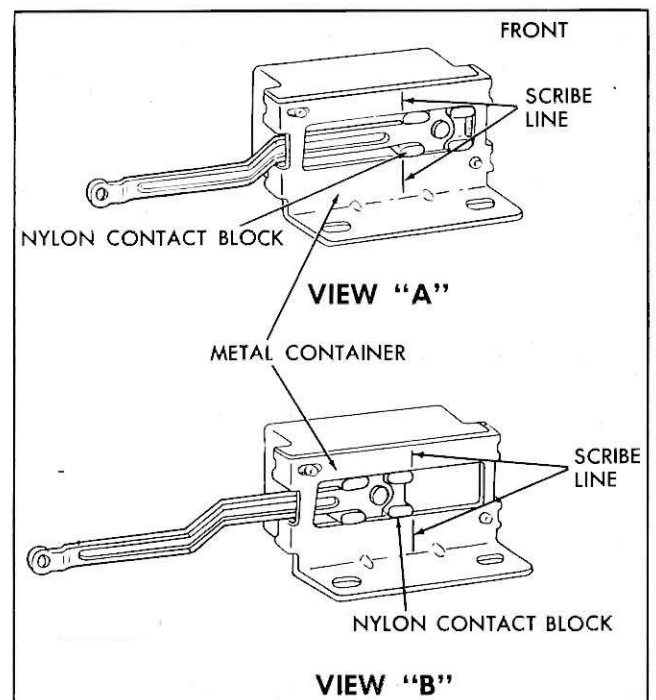

Fig. 5—Neutral Safety Switch
4. Scribe a line on the right side of the metal container in line with the rear end of the nylon block, view A (fig. 5).
6. Loosen the two neutral safety switch mounting screws. Move the metal container so the scribed line will line up with the front end of the nylon block, view B, (fig. 5).